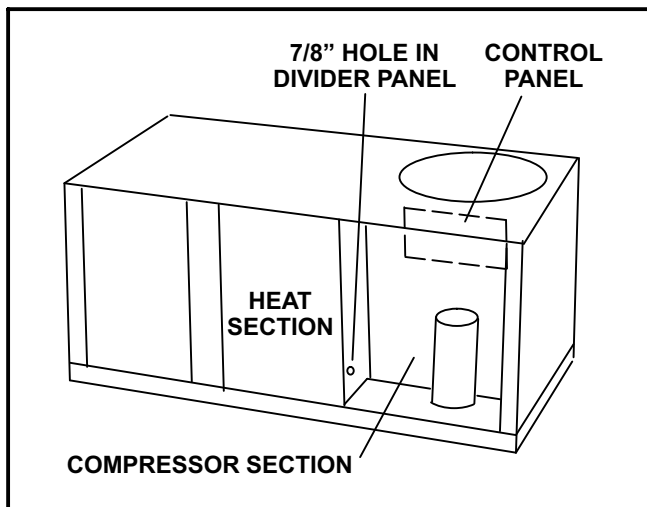

FIGURE 1
- 2- Open the compressor and heat section access panels. See figure 1.
- 7- Route disconnected wires through 7/8" hole in divider panel. See figure 1. Cut wire ties as needed.
- 9- Place kit harness J19 connector near P19 connector in the heat section. Route harness wires from the heat section through the 7/8" hole in the divider panel to the control panel area. See figure 1.